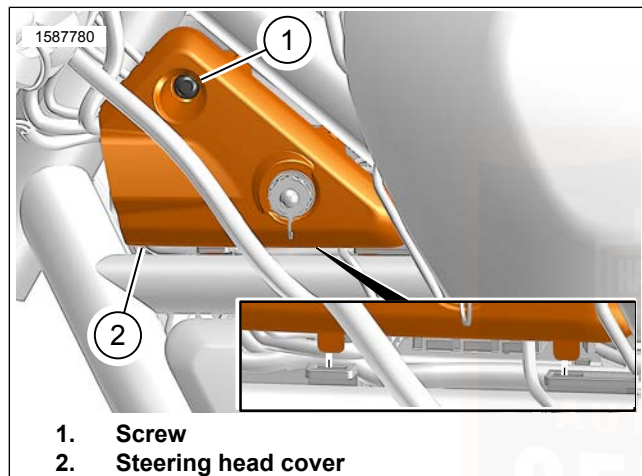

Figure 82. Steering Head Cover (left side typical)
1. See Figure 82. Remove screw (1).
2. Tip side cover (2) out slightly while lifting up.